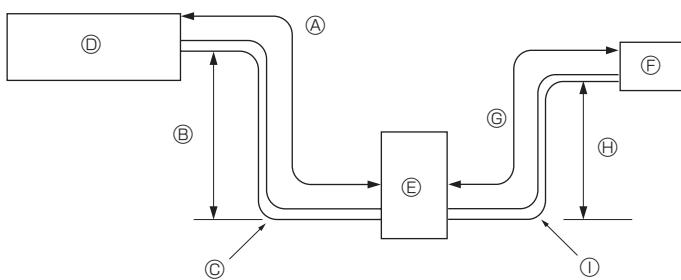

Fig. 2-1
2.1. Refrigerant pipe (Fig. 2-1)
⑪,⑫ Pipe length (one way)	⑬,⑭ Height difference	⑮,⑯ Number of bends (one way)